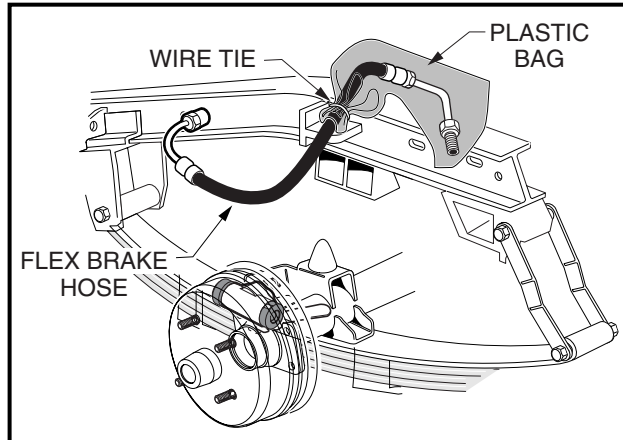

Figure 6-18 Rear Brake Hose With Plastic Bag
7. Lift the hose above the brake cluster assembly and place a plastic bag over the hose fitting to keep dirt and debris from entering the hydraulic braking system (**Figure 6-18, Page 6-19**).
4. Lift the hose above the brake cluster assembly and place a plastic bag over the hose fitting to keep dirt and debris from entering the hydraulic brake system (**Figure 6-18, Page 6-19**).